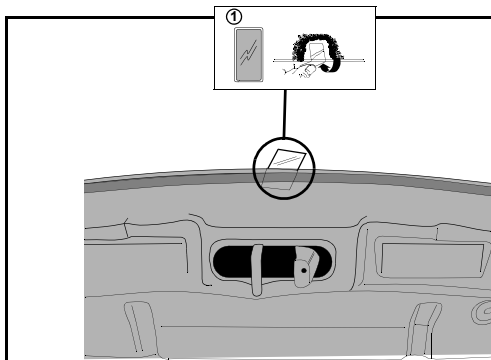

Figure 7. Abrasive resistant tape installation
7. Slightly lift front edge of hood protector. Align the provided abrasive resistant tape with center hole and adhere to the hood lip as shown in Figure 7; half on the underside and half on top of the hood.